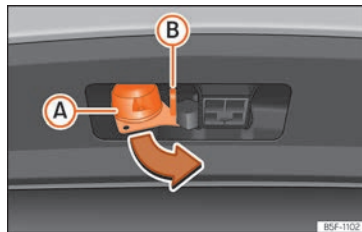

Fig. 263 Turn the 13-pin connector.
- Grip the 13-pin connector at area **(A)** and remove it in the direction of the arrow **>>> Fig. 263**.
- Grip the 13-pin connector at area **(A)** and insert it in the opposite direction to the arrow **>>> Fig. 263**.
The safety lug **(B)** **>>> Fig. 263** is used to hook up the trailer's retainer cable. **>>**